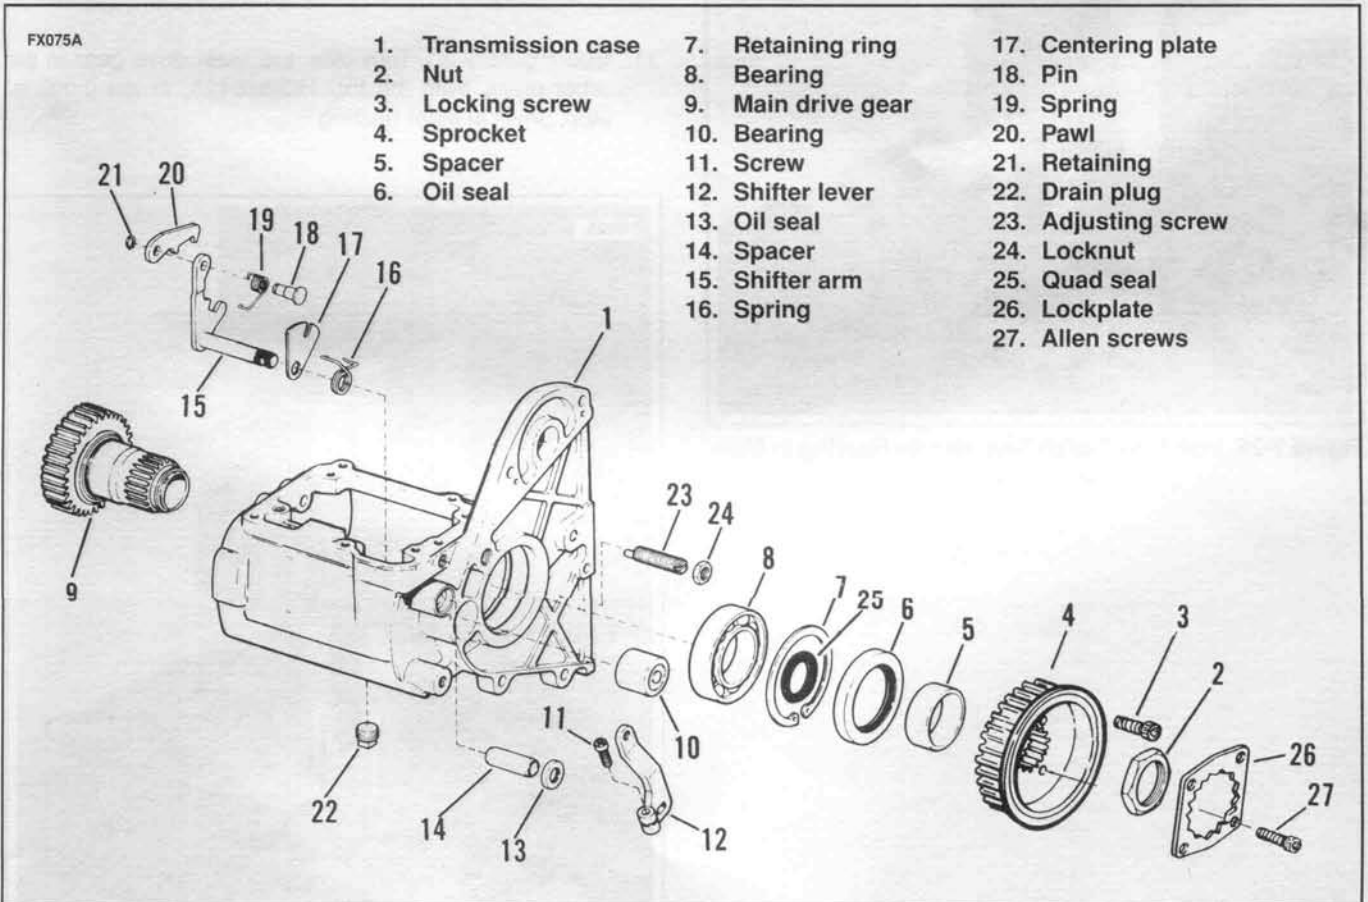

Figure 7-27. Transmission Case, Sprocket and Main Drive Gear
1. See Figure 7-27. Loosen screw (11) and remove shifter lever (12) from shifter arm (15).
2. Loosen locknut (24) and turn adjusting screw (23) out until it clears the centering plate (17). Pull shifter arm assembly out of the case.
6. See Figure 7-27. Inspect the springs (16 and 19). Replace the pawl spring (19) if it fails to hold the pawl (20) on the cam pin (18).
2. See Figures 7-27, 7-31. Place the centering plate (17) on the shaft as shown. Install the springs (16 and 19), pin (18) and retaining ring (21) if disassembled.
4. See Figure 7-27. Install shifter lever (12) on the shaft end and tighten the screw (11) to 18-22 ft-lbs (24-30 Nm) torque. Be sure screw (11) registers in the slot on the shifter arm (15).